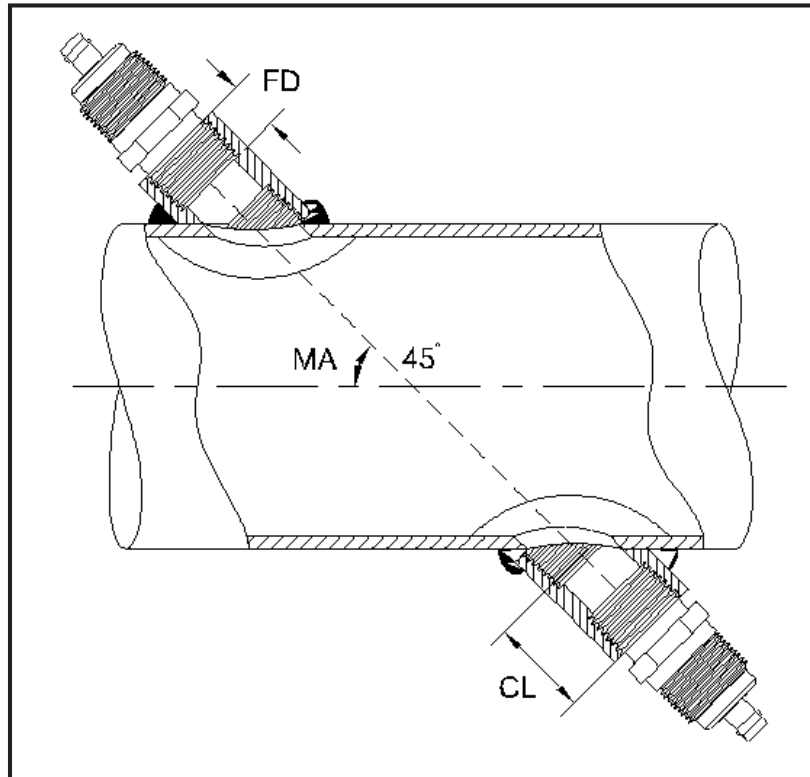

Figure 19: Determining the Pipe Coupling Length
- the pipe inside diameter (ID)
- the wall thickness (WT)
- the installed pipe coupling length (CL)
- the transducers face depth (FD)
- the mounting angle (MA)
Use Figure 19 to properly measure the coupling length. Typically, the transducer face is positioned just outside the inside diameter (ID) of the pipe, or slightly retracted inside the coupling.